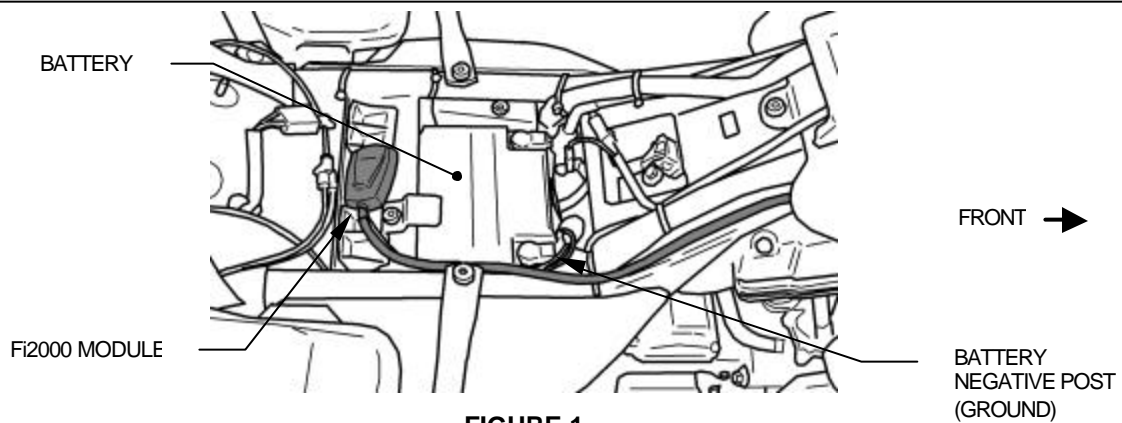
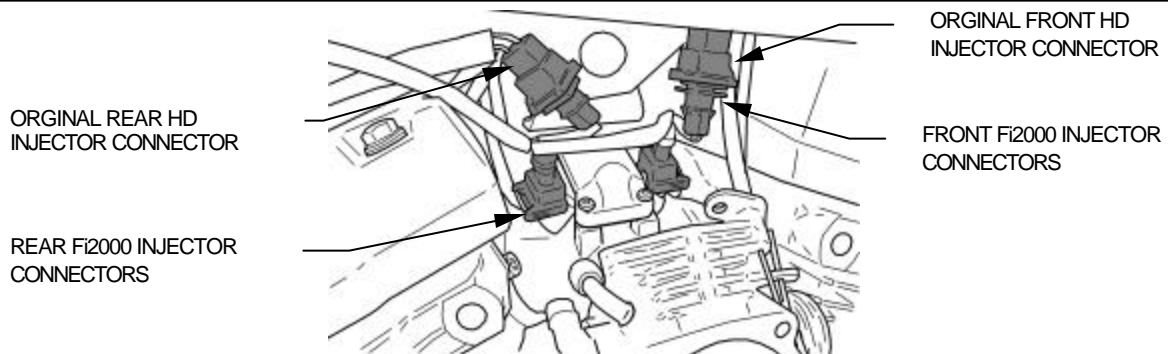

FIGURE 1
FIGURE 2
5. Lay the Fi2000 module in place, but do not attach it to the motorcycle, and run the wiring harness up to the manifold area behind the other wiring of the throttle body (See figure 1). Attach the Fi2000 module’s forward injector plug, with the grey and red wire to the front injector. Take the original HD connector and insert the corresponding Fi2000 connector with the brown and red wires into it, see Figure 2.
6. Attach the Fi2000 module’s rear injector plug with the blue and red wires to the rear injector. Take the original HD connector and insert the corresponding Fi2000 connector with the green and red wires into it, see Figure 2. Use one of the supplied zip-ties to secure the Fi2000 wire harness to the upper motor mount before it is routed back towards the seat area.
7. Route the BLACK wire from the Cobra module to the negative post of the battery as shown in figure 1.
8. Before re-installing the gas tank, seat and air cleaner assembly, verify your connections. Remove the door from the Fi2000 box to expose the LED’s. Verify the wire connections by (1) turning the ignition on, prior to starting, and see if all three LED’s are on steady. If you have no light, your ground connection (BLACK wire) has not made proper contact or your front injector connection is not complete. (2) After achieving a steady light from all three LED’s, start the motorcycle, wait 15 seconds and let it idle, the green light should now be the only LED on. If all three LED’s are still on after start up, verify you have attached the injector connectors correctly. Reattach the door when finished. **Note:** Make sure the ignition is turned off before changing any connection.
10. Remove the backing from the Velcro and attach the Fi2000 next to the battery as shown in Figure 1.